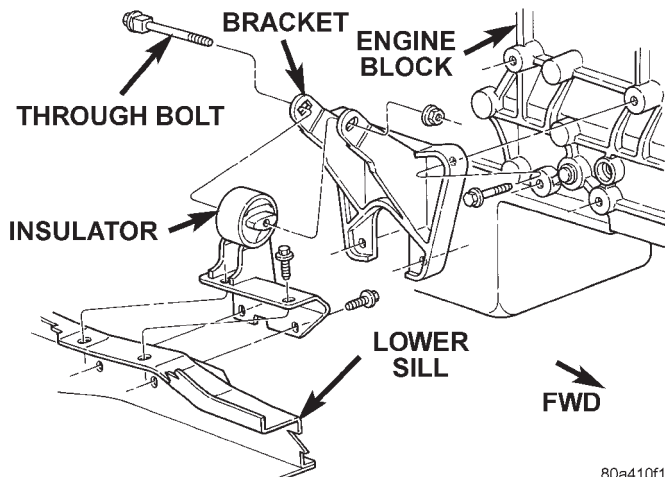

Fig. 6 Front Mount—Right Side
- (1) Disconnect negative cable from battery.
- (2) Raise the vehicle.
- (3) Support the engine.
- (4) Remove through bolt nut. DO NOT remove the through bolt (Fig. 6).
- (5) Remove insulator sill plate bolts.
- (6) Remove engine mount bracket bolts.
- (7) Raise engine up.
- (8) Remove the through bolt.
- (9) Remove insulator.
- (10) Remove engine bracket.